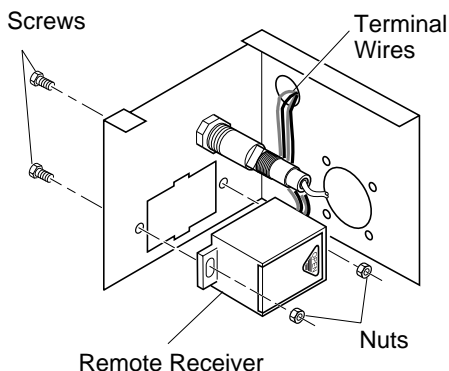
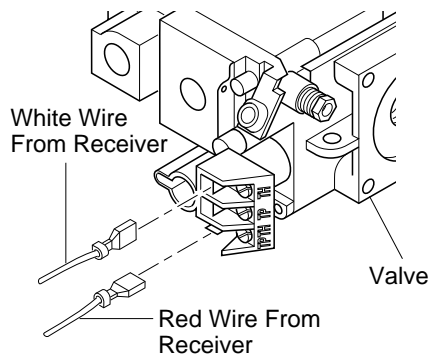

Figure 27 - Installing Remote Receiver
Figure 28 - Connecting Wires
4. Install remote receiver unit onto remote switch bracket using screws and nuts removed in step 2. See Figure 27.
5. Route wires through hole in the upper portion of the switch plate (Figure 27). Connect wires as shown in Figure 28. (Black and blue wires are not used for this application.)